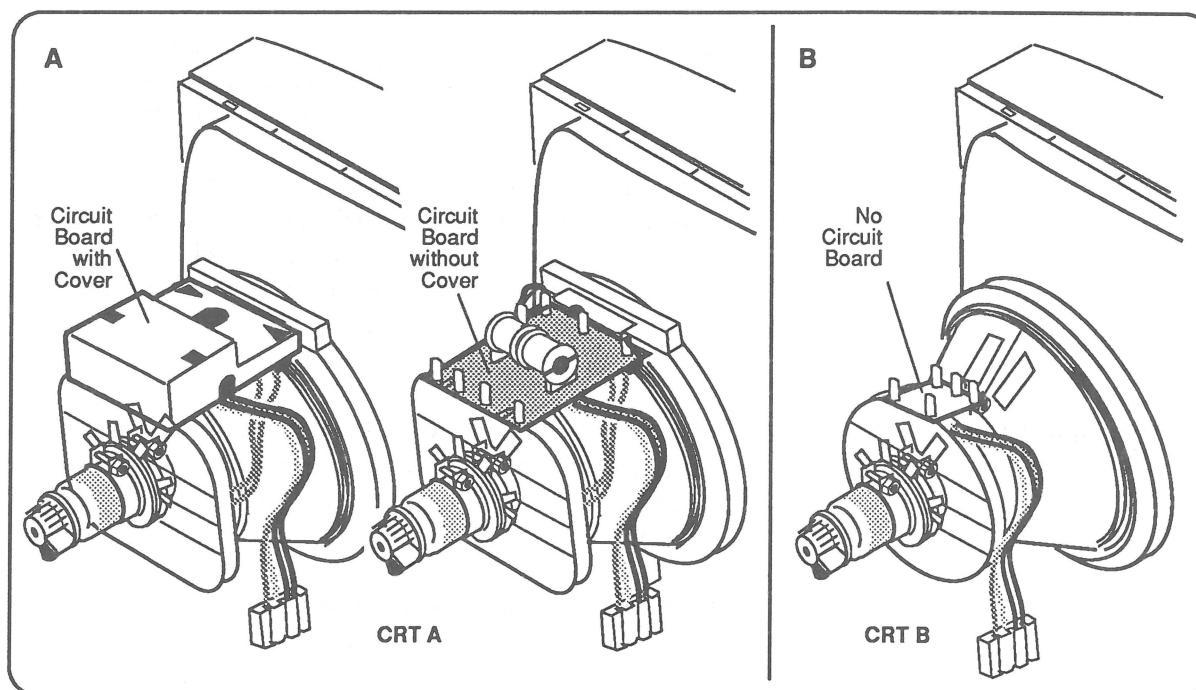

Figure 3-8 Determining CRT/Yoke Assembly Version
- You have replaced the CRT/yoke assembly with a CRT/yoke assembly from a different vendor (see **Figure 3-8** and accompanying text)
WARNING: Before performing the next step, make sure the ground clip from the high-voltage probe is attached to the metal monitor chassis. The next step requires that you measure voltages in excess of 500 volts DC. Be sure to use the high-voltage probe correctly (see "Setting Up the Voltmeter and High-Voltage Probe"). Also, be careful not to cause a short between test point (SCREEN or PIN 4) and adjacent components when using the test probe (see **Figure 3-8**).
6. **Figure 3-8.** There are two vendors for the CRT/yoke assembly. For each vendor's product the screen voltage must be set to a different reading. Determine which vendor's CRT you have (let's call them **CRT A** and **CRT B**). **CRT A** has a 2 1/2" x 2 1/2" circuit board (with or without a plastic cover) that covers nearly all of the top area of the yoke (see **Figure 3-8A**). **CRT B** has a 1" x 1 1/4" plastic rectangle **without circuitry** (see **Figure 3-8B**).